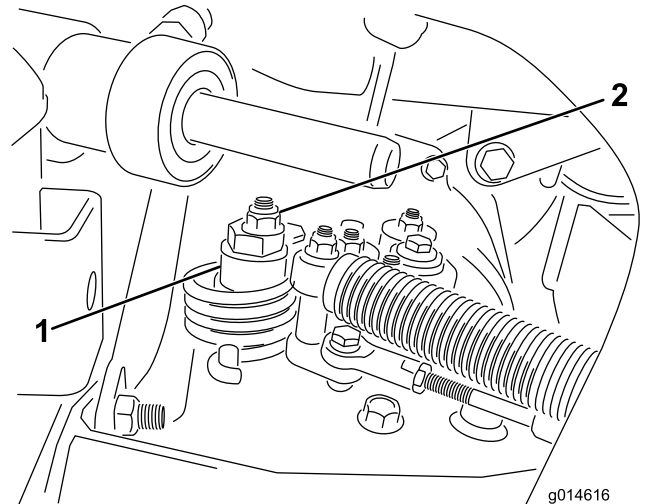

Figure 46
- A. Loosen the nut securing the eccentric to the top of the hydrostat (Figure 46).
- C. Rotate the eccentric until creep does not occur in either direction. When the wheel stops rotating, tighten the nut locking the eccentric and the adjustment (Figure 46). Verify the adjustment with the throttle in the SLOW and FAST position.